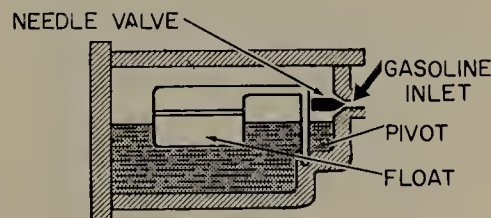
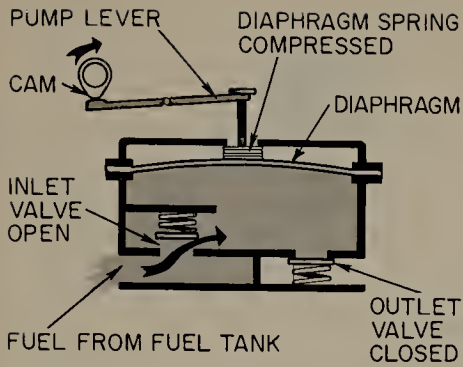
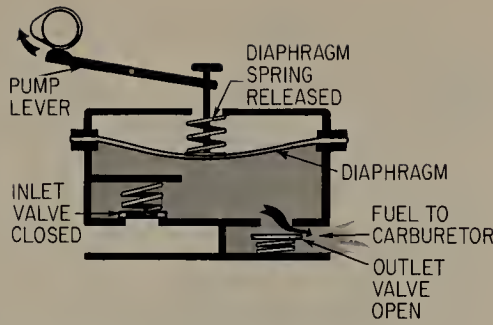

FIGURE 8.4 Simplified drawing of a carburetor float system.
FIGURE 8.29 Action in the pump when the pump lever is pushed down by the cam lobe on the eccentric.
FIGURE 8.30 Action in the pump when the lobe has moved out from under the pump lever.
8.6 Float Bowl. The purpose of the float system is to prevent the delivery of too much gasoline to the carburetor. Without the float system, all the fuel in the fuel tank would run down into the carburetor. The float system is made up of a small bowl, a float of metal or cork, and a needle valve that is operated by the float. Figure 8.4 is a simplified drawing of a float system. The sectional view of the carburetor (Fig. 8.2) shows how an actual float system looks. When gasoline from the fuel tank enters the float bowl, the float is raised. As the
Figures 8.29 and 8.30 show schematically how the fuel pump works. When the pump lever is pushed down by the lobe on the cam, it lifts the diaphragm against the pressure of the diaphragm spring, as shown in Fig. 8.29. This produces a vacuum in the pump chamber which lifts both the inlet and the outlet valves. The upward movement of the outlet valve closes it. The upward movement of the inlet valve opens it so that the vacuum will allow fuel from the fuel tank to flow into the pump chamber, as shown by the arrow.
When the lobe of the cam moves out from under the pump lever, the diaphragm spring pushes down on the diaphragm, thus creating pressure in the pump chamber (Fig. 8.30). The pressure pushes down on both valves, causing the inlet valve to close and the outlet valve to open. The pressure then pushes fuel from the pump chamber into the carburetor float bowl. The action is continuous as long as the engine runs. When the float bowl in the carburetor becomes sufficiently filled, the float rises and lifts the needle valve up into the seat, thus shutting off any further delivery of fuel. We have already described how this works and showed a simplified float system in Fig. 8.4. When the float system refuses to take any further fuel, the diaphragm remains in its upper position, shown in Fig. 8.29, even though the pump lever releases it and the spring pressure is trying to push it down.
In actual operation, the float needle takes a position that allows just enough fuel to enter to replace the fuel leaving. The pump operates to deliver just this amount of fuel and no more. Figures 8.31 and 8.32 show the two positions of a fuel pump used in an automobile engine. This is a more accurate representation of how the inside of the fuel pump looks than is shown in Figs. 8.29 and 8.30, which are only schematic.